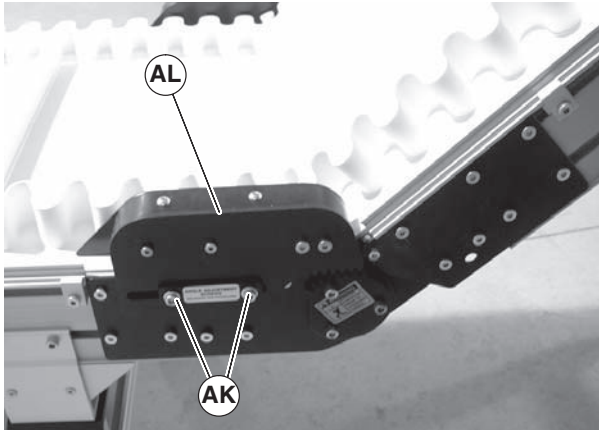

Figure 79
1. Remove screws (Figure 79, item AK) and remove lower knuckle return roller assembly (AL) on both sides of knuckle, note the position of the meshing teeth.